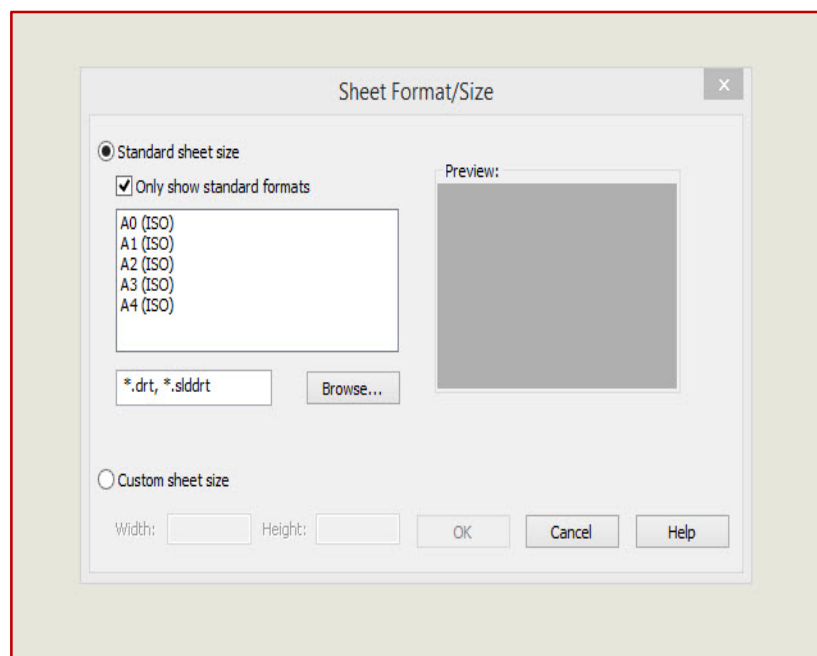

Figure 12.1 – New Drawing Format and Size Properties
Step 96: Open a new document and specify **Drawing** as the type of document. A new drawing Format and Size selection panel is shown in Figure 12.1.